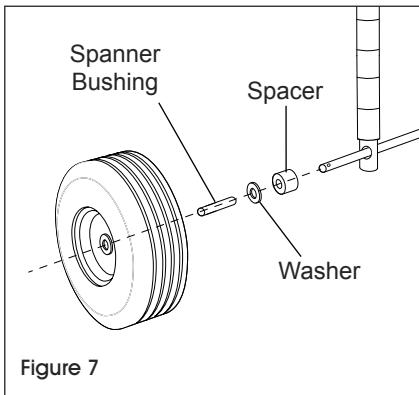

Figure 7
3. Slide one spacer and then one washer onto the end of the axle. Insert spanner bushing into the center of pneumatic wheel. Then slide the wheel onto end of axle. (See Figure 7)